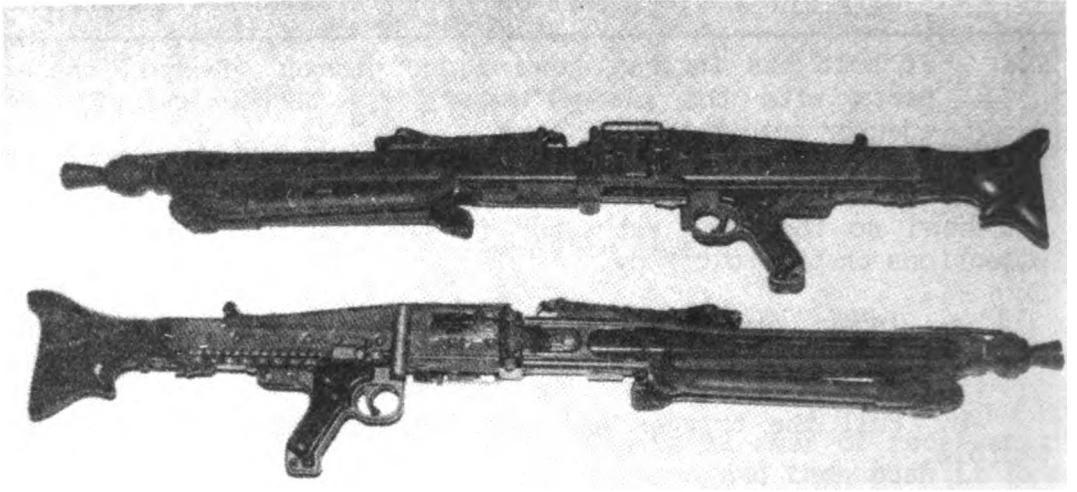

Figure 2
6. Perform Function Check Within 10 Seconds. (See fig. 2.)